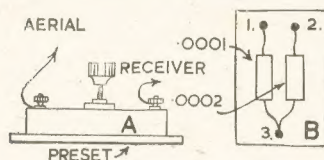

Fig. 1—Adding an aerial condenser
The simplest way to sharpen tuning is to connect a condenser in series with the aerial lead-in, and this is particularly useful with small valve sets where reaction can be used to maintain volume. The smaller the capacity of this condenser, the more sharp will tuning become. However, very small values reduce volume severely. Because of this a variable or preset condenser of about .0003 or less, maximum capacity, is best. Such a condenser is shown at (A), Fig. 1. By turning the small knob it can be adjusted to the most suit-
Another method is to use one or more small fixed condensers. If two condensers, such as shown at (B), Fig. 1, are wired to three terminals fixed to a piece of insulating material, different capacities may be selected. Connecting to 1 and 2 will give a capacity of roughly .00007 mfd. Terminals 1 and 3 provide .0001 mfd., and terminals 2 and 3 .0002 mfd. If terminals 1 and 2 are joined the capacity will be .0003 mfd., and all these capacities can be tried in series with the aerial lead-in.
To use, tune in the troublesome station on the receiver and tune the wavetrapp until this station is cut almost or completely out. No further adjustment of the wavetrapp is then required, and a preset condenser (A), Fig. 1 can be used to tune it. For medium waves, 90 turns of 32 S.W.G. enamelled wire on a 1 in. former will be suitable. Long waves would require about 250 turns of similar wire wound in two compact piles.